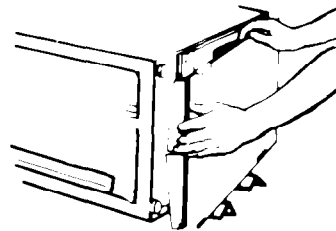

FIGURE 8
6. Lay two carton corner posts or other protective material (such as a throw rug) on the floor, then lay the unit on either of its sides on the corner posts. The corner posts will protect the finish of the compactor and the floor. See Figure 8. **NOTE: Do not truck or handle by console.**
Remove the cardboard shipping pad located on the bottom. See Figure 8.